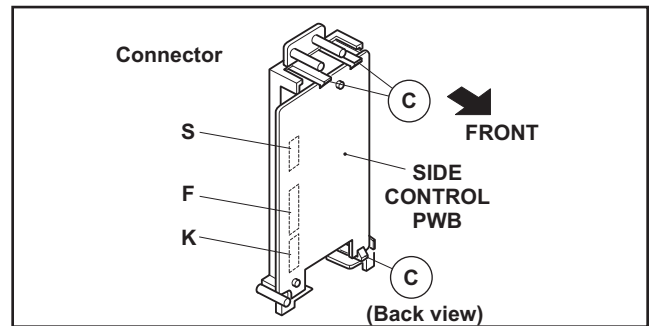

Fig.1
- (2) Slightly pull the SIDE CONTROL JACK ASSY toward you, and detach the claw from FRONT CABINET. Then it can be removed.
- (3) Then disconnect the connector [S], [F] and [K] as shown in Fig 1.
- (1) Remove the 3 claws [C] from backside of the SIDE CONTROL JACK ASSY as shown in Fig.1.
- (2) Remove the SIDE CONTROL PWB from the SIDE CONTROL JACK ASSY.